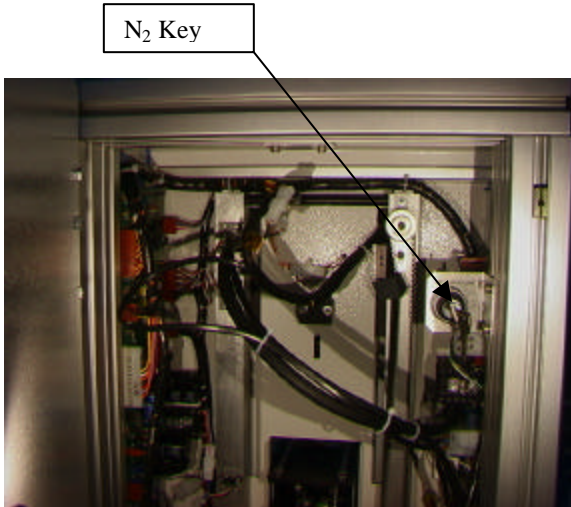

Figure 2a
- i. The TF 1500 comes configured for internal or external air. Select air source; internal pump or external N₂. (Figure 2a & 2b)